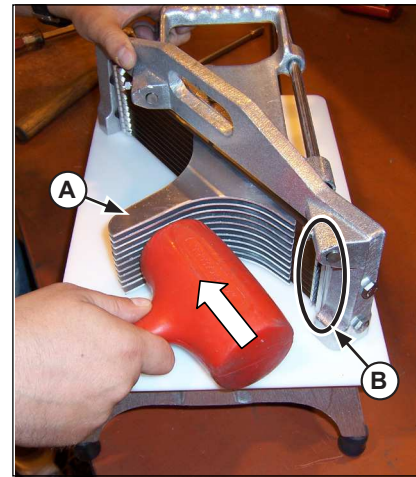

Figure 1. Pusher Head Adjustment Through the Blades.
1. Gently tap on the Pusher Head Assembly (A) so that the entire assembly can pass through the blades. Notice how the "CIRCLED" portion (B) of the pusher head assembly is now able to pass completely through the blades. See Figure 1.